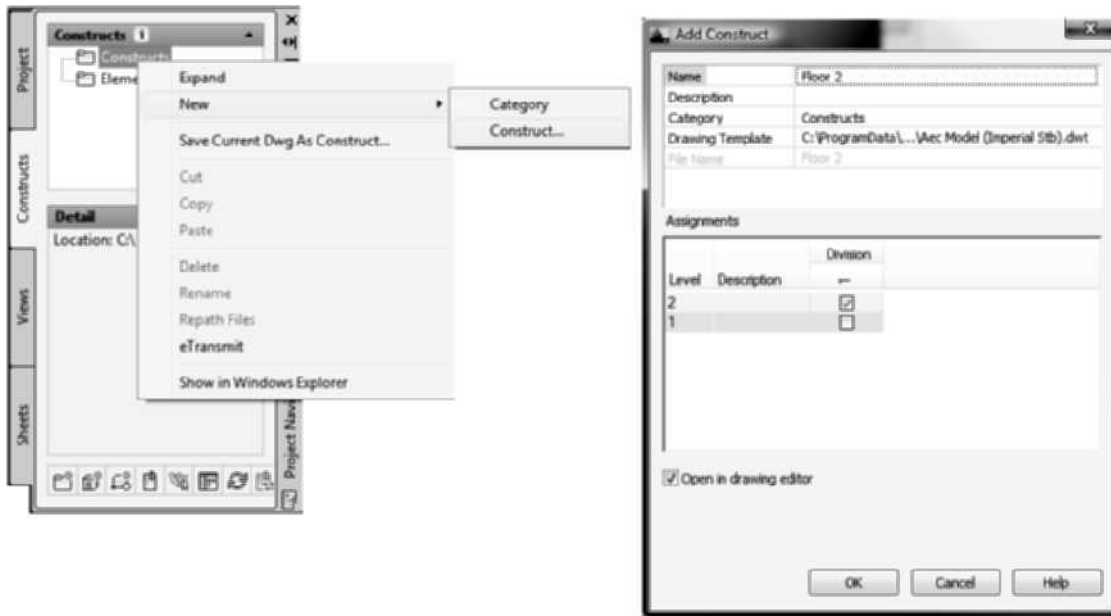

FIGURE 1.86 Creating a Construct drawing
9. The floor plan of the house will be started in a Construct drawing. This project will consist of a basement; therefore, the main floor will be developed first as level 2. To create a Construct drawing, choose the Constructs tab in the Project Navigator. Choose the Constructs category, right-click, and choose **New > Construct** to open the Add Construct dialog box. Edit the Add Construct dialog box as follows: Name = Floor 2 and check level 2 [1] for Division 1 as shown in Figure 1.86. Select **Open in drawing editor** checkbox. The content of level 1 [G] will be developed in future tutorials as either a foundation plan or basement plan. Click **OK** to dismiss the Add Construct dialog box.